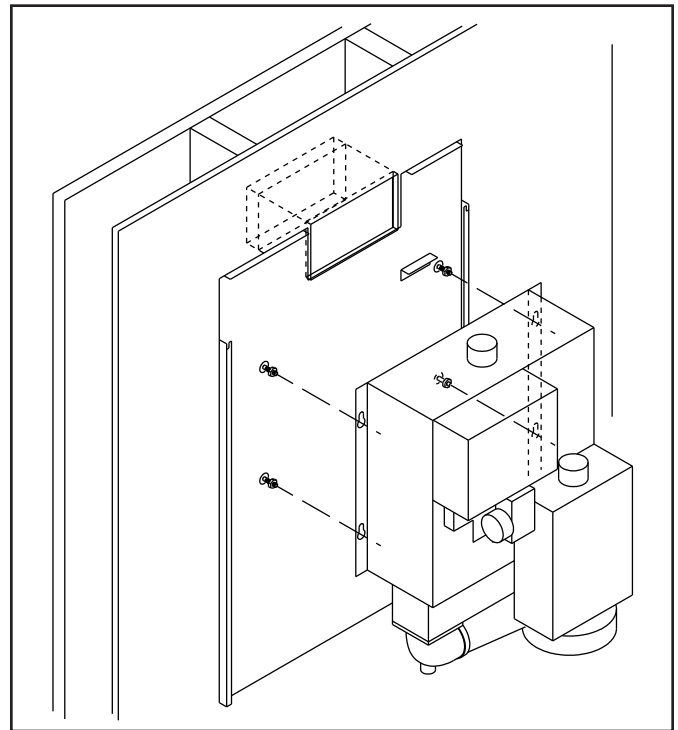

Figure 2: Position and Secure Boiler
6. Place hex nuts (provided) loosely on the ends of boiler mounting studs on mounting panel. (See Figure 2.) Two keyhole-shaped slots are provided on each side of the boiler rear which allow hex nuts (on studs) to pass through slots. Lift the boiler and seat it on the mounting studs. Tighten hex nuts securely.